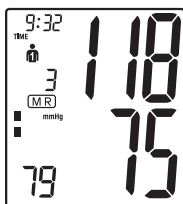

Fig. 5
- After pressing the MEMORY (M) button, the last measurement will be displayed (Fig. 5).